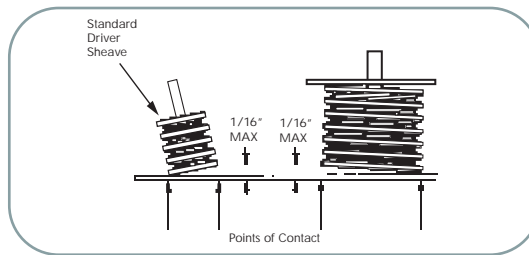

Figure 5 - Drive Alignment
- Place a straight edge across the driver and the driven sheaves as shown in Figure 5.
- The straight edge should contact all four points as shown in Figure 5 indicating proper drive alignment.